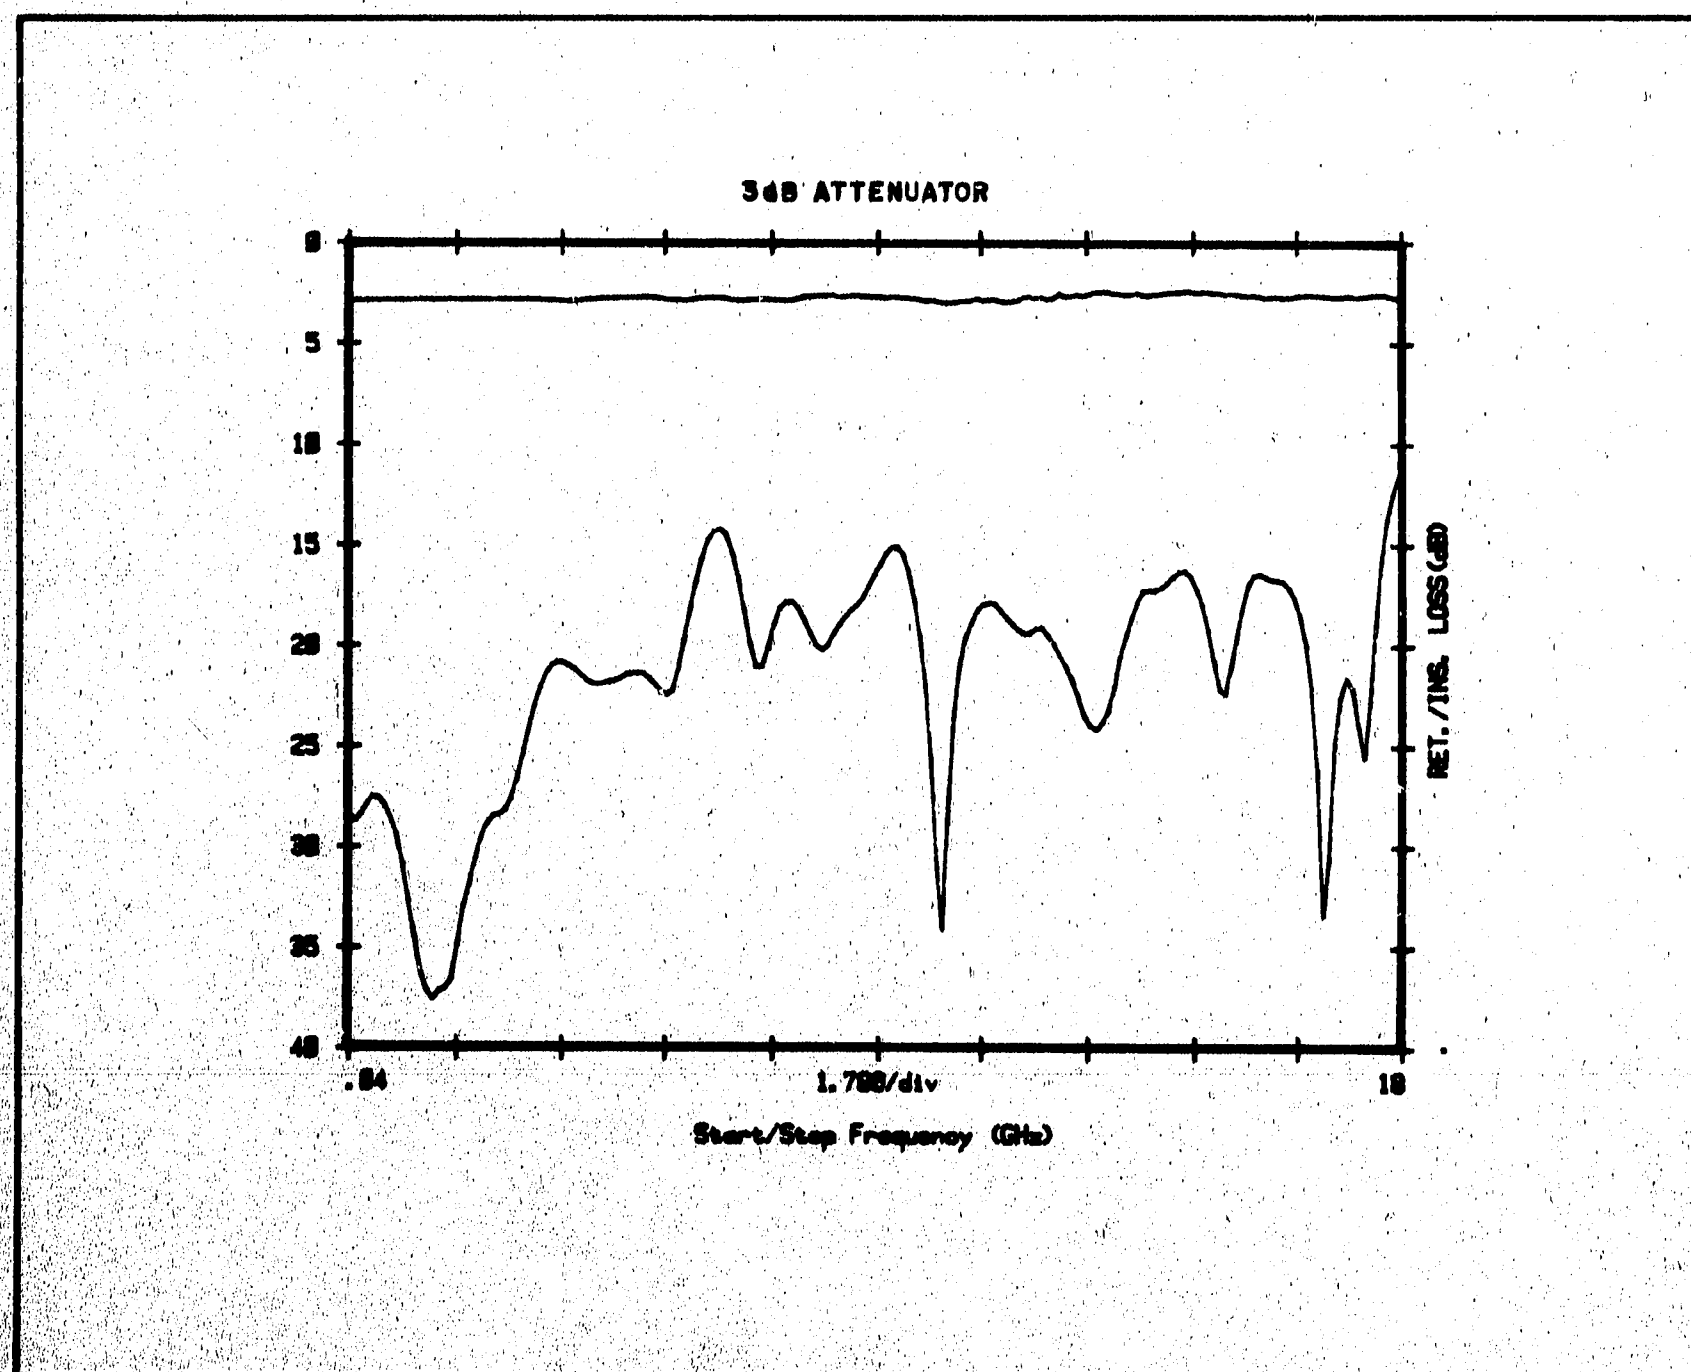

Figure 4-6. HP 85 Plot of Typical 3 dB Attenuator Measurement
39. When prompted to SELECT FUNCTION, press K1 to plot the data. The plot should be similar to Figure 4-6. When the plot is complete, hold SHIFT and push COPY to print the results. Press PAPER ADVANCE and tear off the printed copy to retain as the test results record. Compare this record to the results of the previous manual measurement of the 3 dB attenuator. The results should be similar if the system is operating correctly.